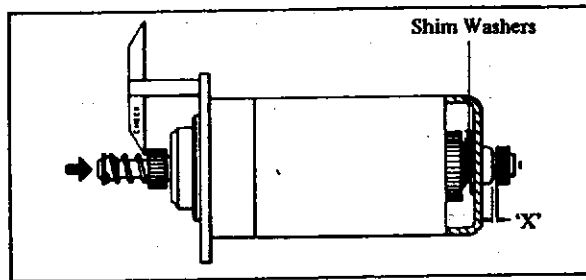

Fig. 74
- (b) When this has been done, push the armature towards the commutator end of the machine as shown in Fig. 74 and again measure gap 'X' which should now be within the limits $2.03 + 0.50 - 0.00$ mm. ($0.079 + 0.02 = 0.00$ in.) using Tool No. 6244.4 go no go gauge.